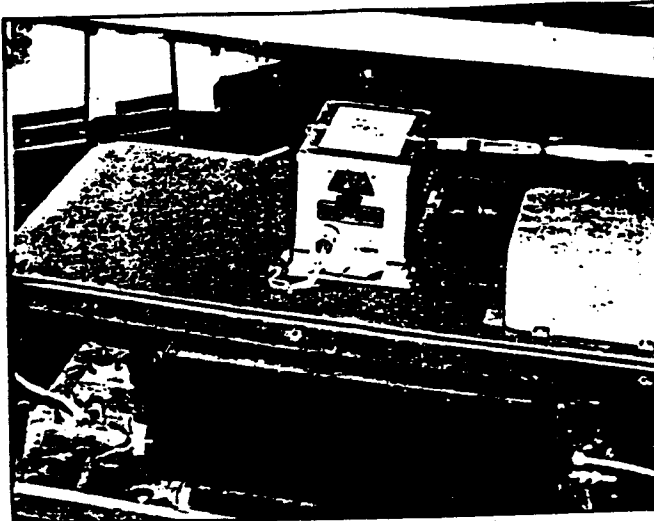

Figure 6. Interphone Amplifier
2. AMPLIFIER - AM-26/AIC. (See figure 6.)